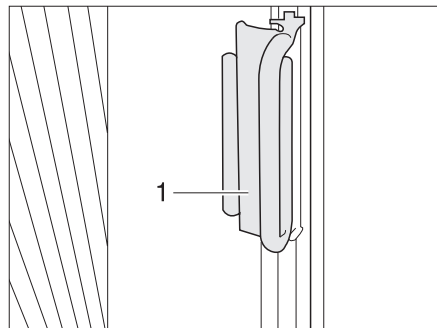

Fig. 51 Handle of the Roman shade for the windscreen
- Grip the Roman shades at both sides of the windscreen at the handle (Fig. 51,1) and pull carefully towards the middle of the windscreen until the magnetic catch keeps the Roman shade closed.
- Push the handle (Fig. 51,1) onto the attachment. The Roman shade is secured.